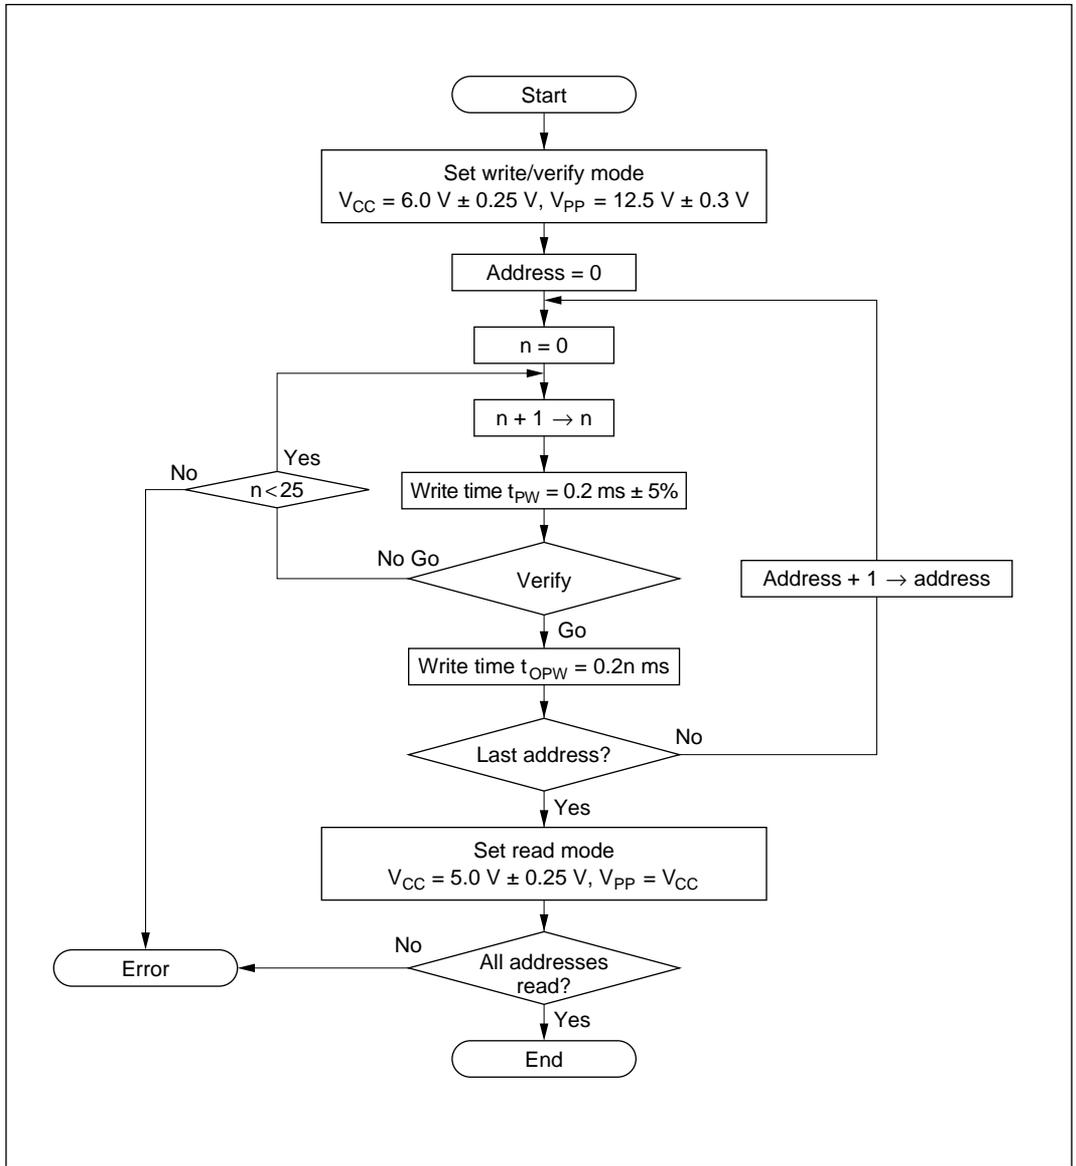

Figure 6-8 High-Speed, High-Reliability Programming Flow Chart
An efficient, high-speed, high-reliability method is available for writing and verifying the PROM data. This method achieves high speed without voltage stress on the device and without lowering the reliability of written data. The basic flow of this high-speed, high-reliability programming method is shown in figure 6-8.
- t_{OPW} is defined by the value given in figure 6-8 high-speed, high-reliability programming flow chart.